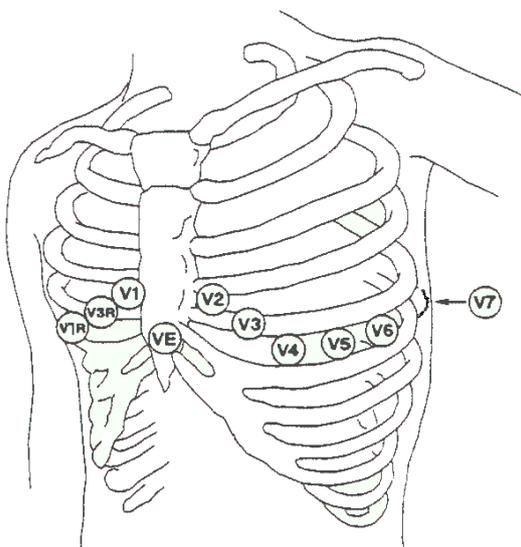

Fig. 7-3 Chest Lead Electrode Placement Position for 5-lead
- For 5-lead configuration, place the chest (V) lead electrode in one of these locations (see Fig. 7-3):